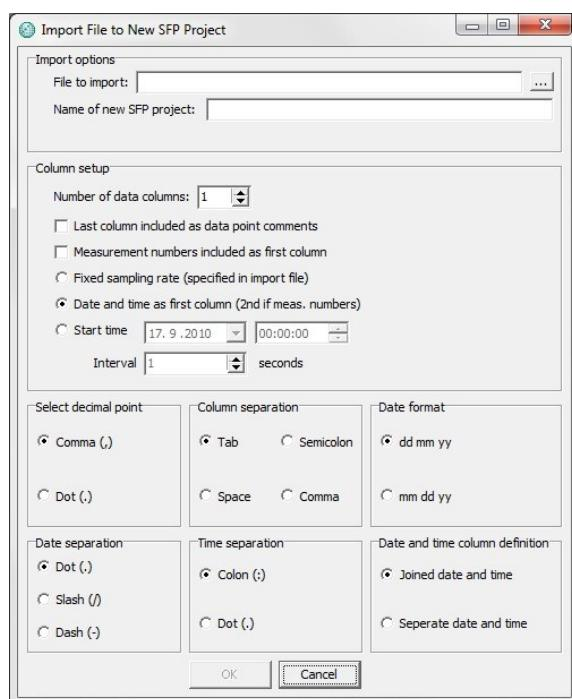

Figure 13.4 Import file to new SFP project
3. No header is included in the file. The user defines the start date, time and the sampling frequency in the import window (see figure 13.4).
Browse for the file you want to import and name the project (see figure 13.4).